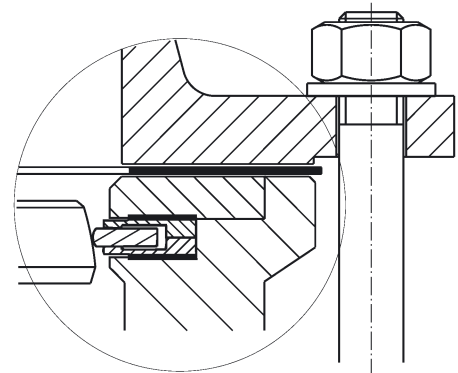

Fig. 7
6. Make certain that the valve and gaskets are properly centred and that the correct gasket quality is used. For proper shut-off function, the pressure of the counter flanges must be transmitted via the gaskets to the cover plate (see Fig. 7).